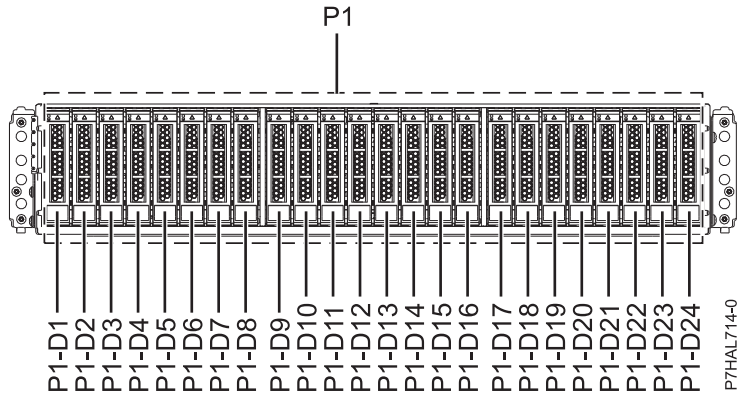
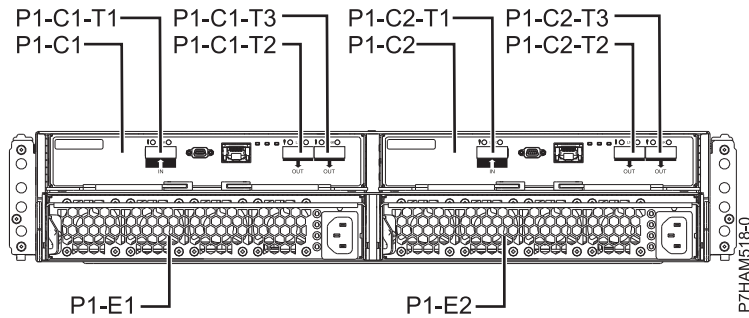

Figure 5. Front view of the 5887 disk drive enclosure showing the disk drive locations
Figure 6. Rear view of the 5887 disk drive enclosure
1. Identify the part and the enclosure that you want to service. The disk drive and SSD slots are located in the front of the enclosure. Figure 5 and Figure 6 show the front view and rear view of the enclosure and the disk drive locations in the enclosure.